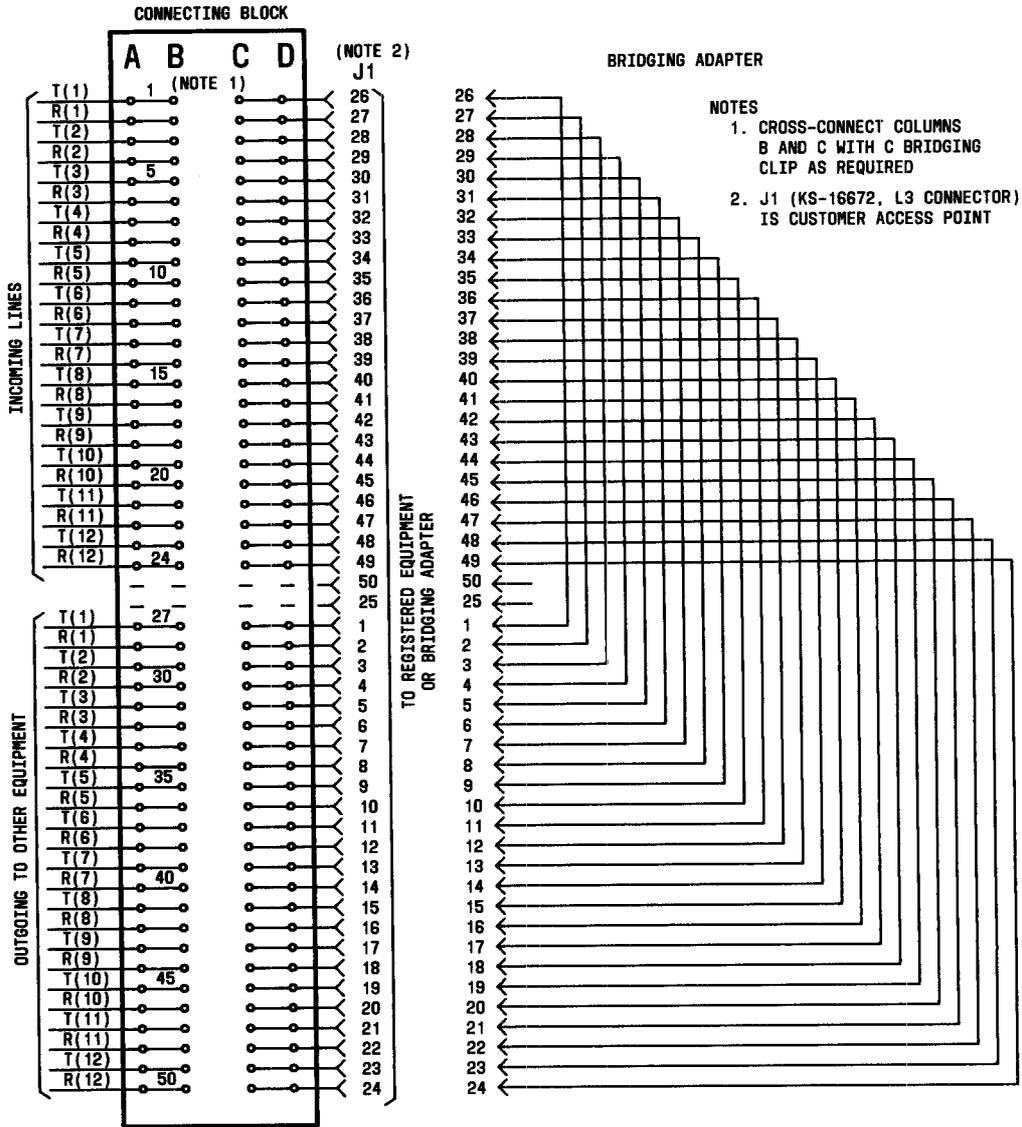

Fig. 2—Wiring of 700B-66-B1-12 Jack
- (1) Install the 700B-66-B1-12 jack on a 183C6 backboard in a location mutually agreeable to the TELCO and the customer.
- (2) Connect the incoming lines and outgoing lines to other equipment on column A as shown in Table B. Place C bridging clips between columns B and C on all rows — both incoming and outgoing. Install cover on connecting block. Fasten the bridging adapter using the fastener supplied.
- (3) Plug the bridging adapter into the ribbon connector and test all connected lines for continuity. If the customer is not ready, secure the bridging adapter in place. If the customer has the registered equipment wired at the time of installation, have them connect their plug to the ribbon connector and secure in place. Internal wiring of the 700B-66-B1-12 jack is shown in Fig. 2.